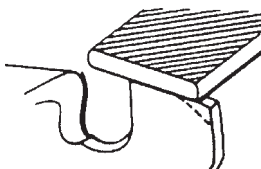

Fig. 39
- 4) Round off front corner to maintain original shape of depth gauge after using depth gauge tool. Always follow the recommended depth gauge setting found in the maintenance or operator manual for your saw. (Fig. 39)